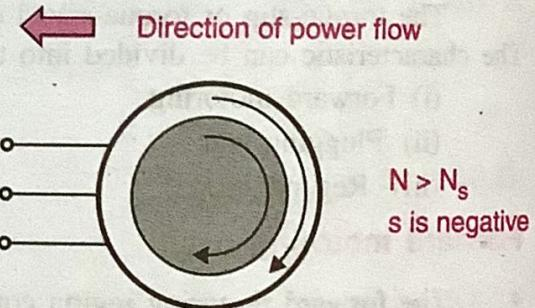

Fig. 8.9.2 : Generating mode
- On this region, the motor acts as a generator, and returns the power back to the ac source as shown in Fig. 8.9.2. Maximum torque in the generating mode is obtained at a slip $s = -s_m$.